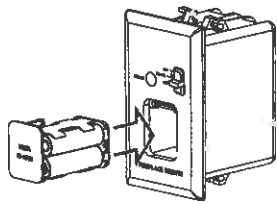

Figure 4
6. Slide the battery compartment into the Remote Receiver. See *Figure 4*.